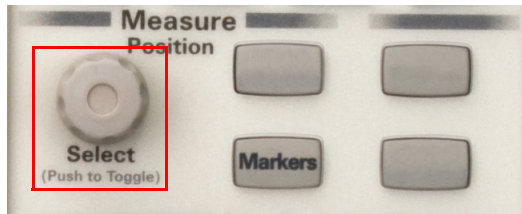

Figure 2-110 Select knob in the Measure section
- 1 Push  in the Measure section on the front panel to select or toggle between markers A and B as shown in Figure 2-110.